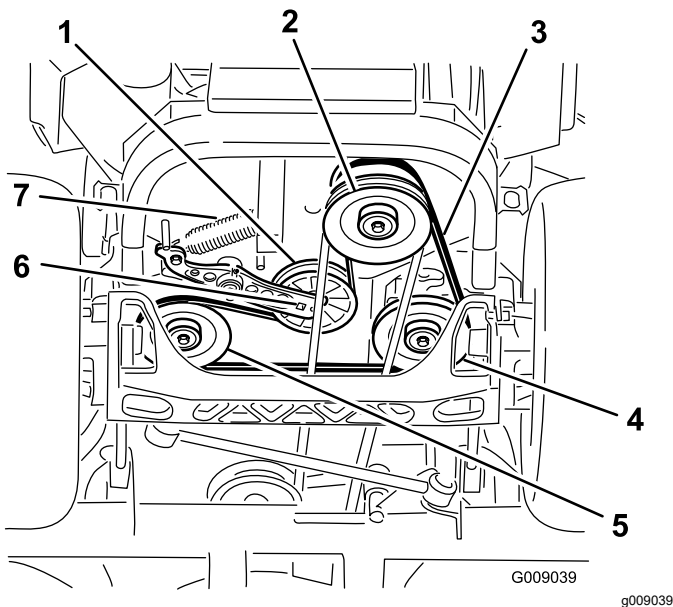

Figure 95
4. Raise the machine and support it with jack stands (Figure 95).
5. Use a ratchet in the square hole in the idler arm to remove the idler spring (Figure 95).
6. Unhook the idler spring from the frame (Figure 95).
9. Using a ratchet in the square hole in the idler arm, install the idler spring to the frame (Figure 95).